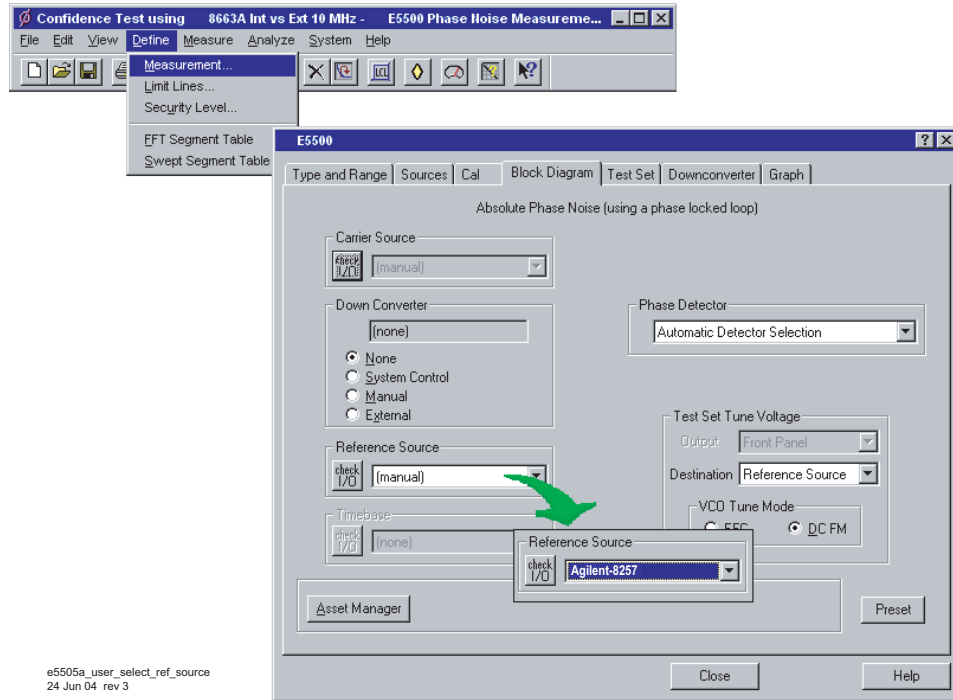

Figure 111 Selecting a reference source
- Using Figure 111 as a guide, navigate to the **Block Diagram** tab.